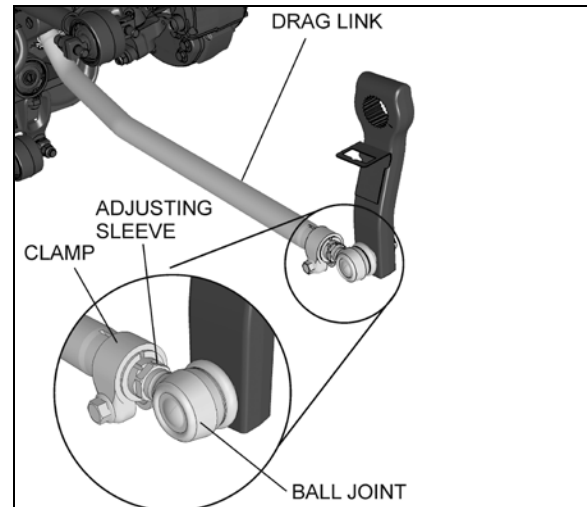

FIGURE 21: DRAG LINK
- Line up switch lever with reference to the bracket center (Refer to figure 21).
The power steering reservoir is located on R.H. side of engine compartment, on front wall and accessible through the engine compartment R.H. side door. (Fig. 21).
3. Insert dipstick in reservoir. Remove it again to check fluid level (Fig. 21).